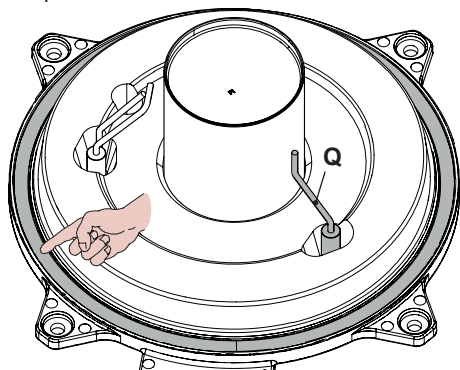

Fig. 10.9
- The silicon seal on the front wall of the combustion chamber Fig. 10.9 must be replaced if worn.
- The detection electrode **Q** in Fig. 10.9 also functions as a sensor for the correct drainage of the condensate. Should the mentioned electrode come into contact with the condensate water present within the combustion chamber it sends the boiler into safety lockout. Therefore, should the insulation be wet or deteriorated, provide for the substitution of the same.
Caution: After any periodical servicing or disturbance the combustion chamber silicon seal Fig. 10.9 must be fully inspected and replaced at the discretion of the service engineer.